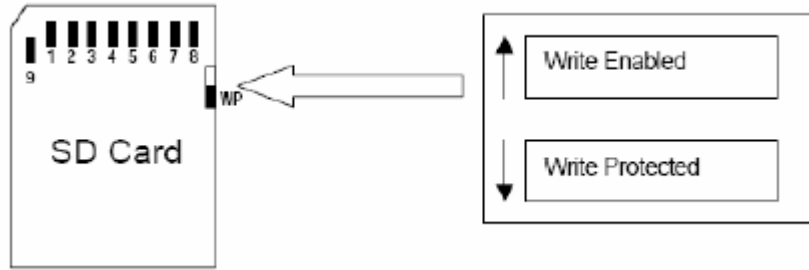

Fig 3 - SD Card Pin Designation
- Fig 3 - SD Card Pin Designation**